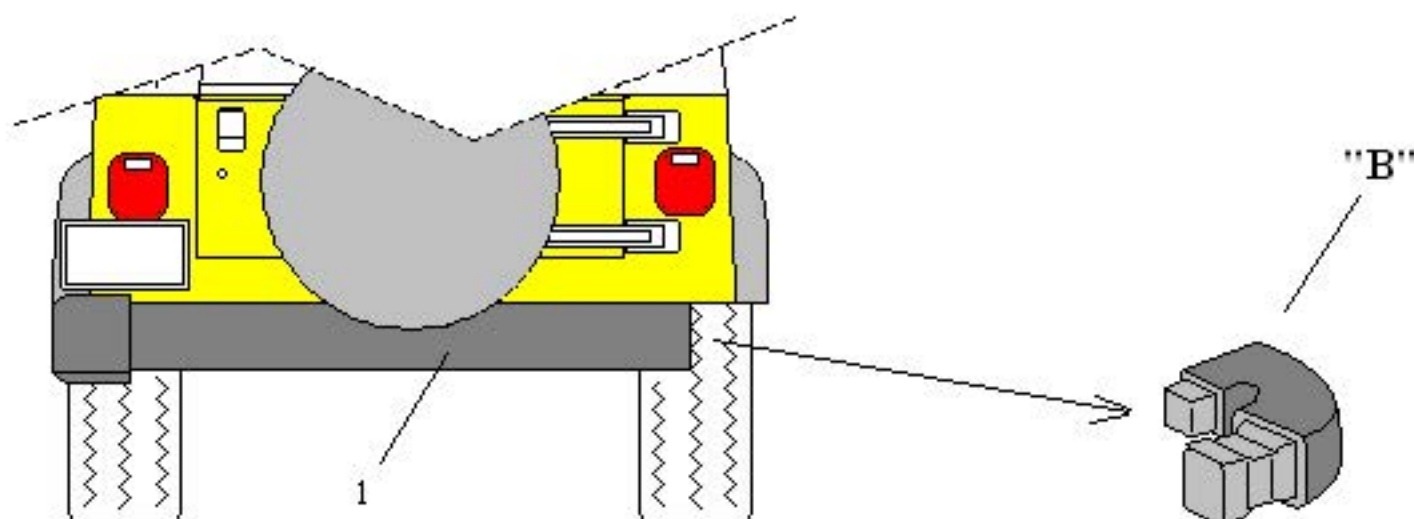

Fig. 1
- 3- Refer to page 3 Fig. 1 and remove both rear bumper plastic end caps "B" as shown.